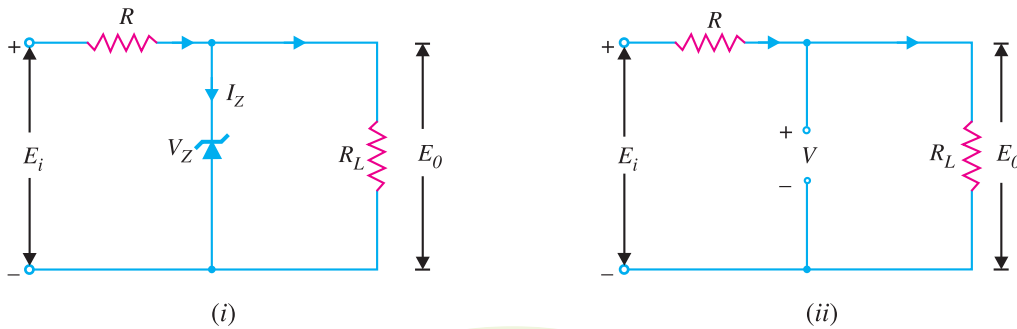

Fig. 6.57
**1.  $E_i$  and  $R_L$  fixed.** This is the simplest case and is shown in Fig. 6.57 (i). Here the applied voltage  $E_i$  as well as load  $R_L$  is fixed. The first step is to find the state of zener diode. This can be determined by removing the zener from the circuit and calculating the voltage  $V$  across the resulting open-circuit as shown in Fig. 6.57 (ii).